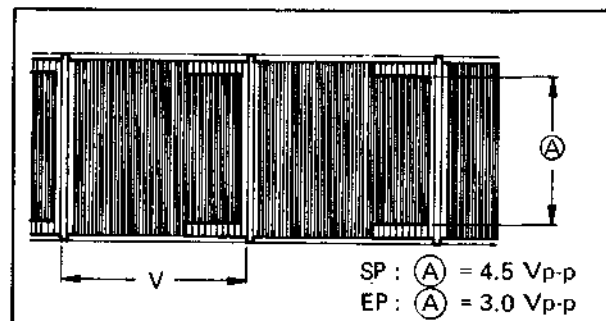

Fig. 5-32 FM recording level
3. Adjust R2 (SP. REC FM) of the PRE/REC board so that the color bar white component of the FM waveform becomes 4.5 Vp-p. See Fig. 5-32.